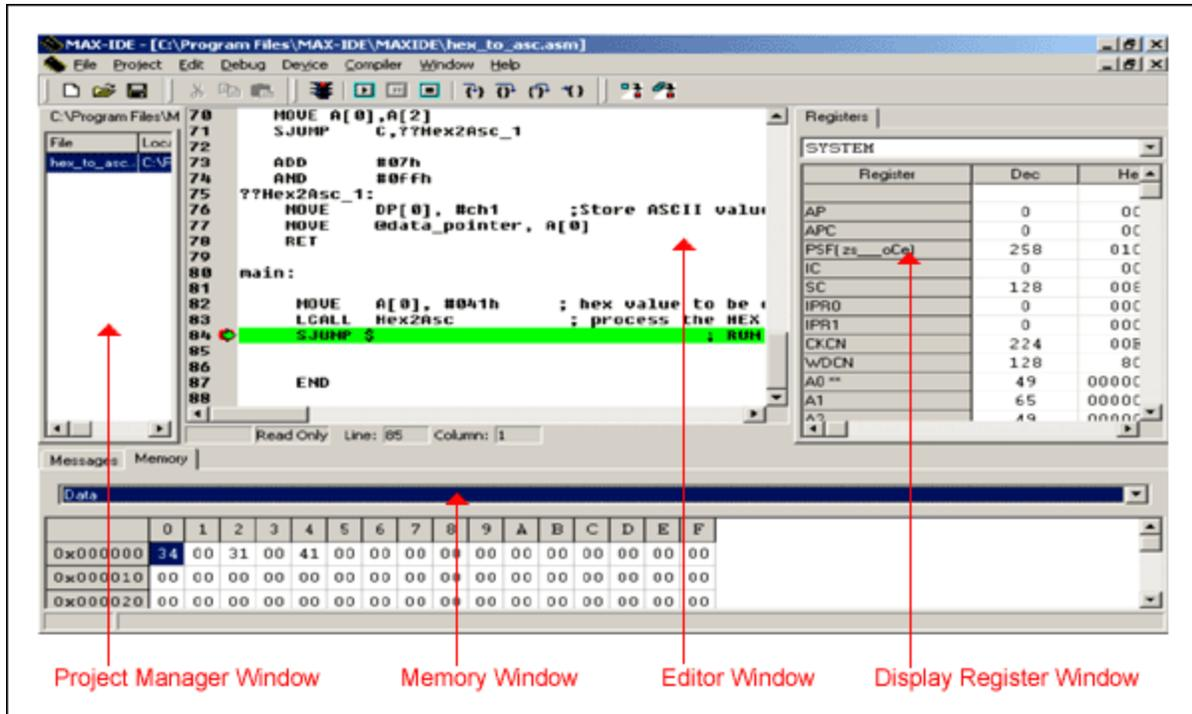

Figure 5. The Debug Windows with the breakpoint are indicated by the green arrow and line.
**Figure 5** shows the breakpoint and an instance of the application running.
**Step 12:** Open the Statistics window (**Window**→**Show**→**Statistics**). This action shows you the machine cycles and execution time (**Figure 5**).